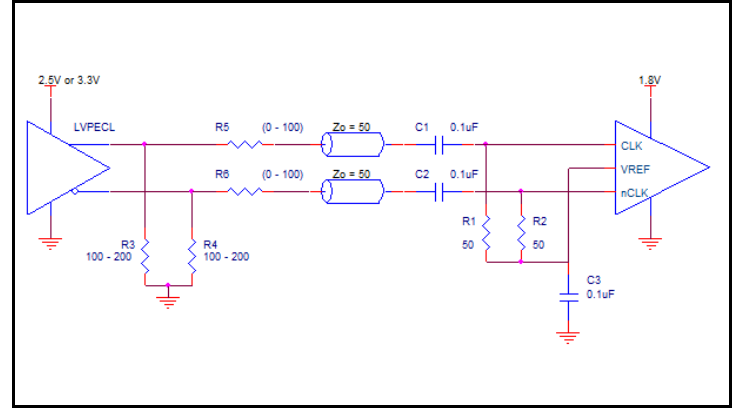

Figure 2B. Differential Input Driven by an LVPECL Driver - AC Coupling
- V_{REF} specification is applicable to the AC-coupled input interfaces shown in *Figures 2B and 2C*.